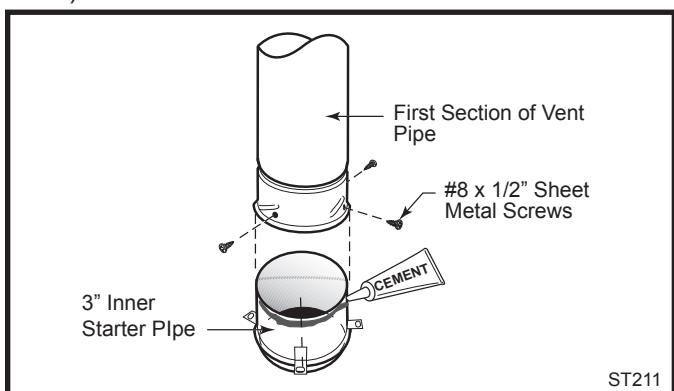

Fig. 18 Connect the inner starter with the next section of inner pipe.
- Drill three pilot holes into the Inner Starter and secure the assembly with three sheet metal screws. (Fig. 18)